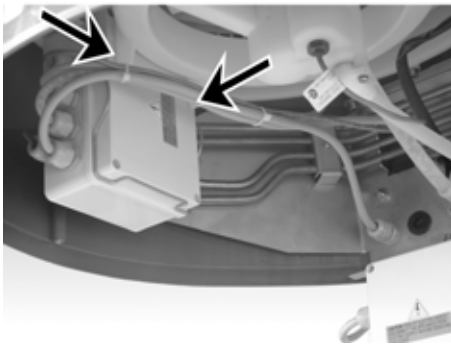

Fig. 15 - The internal junction box
- » Make sure that all the wires are positioned properly inside the machine as shown in Fig. 15.